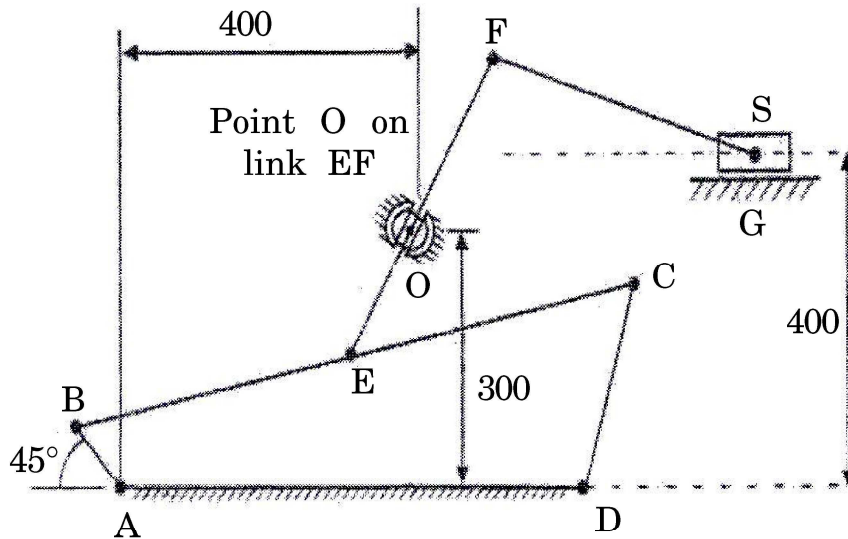

Fig. 4
7. (a) In the swiveling joint mechanism shown in Fig. 4. AB is the driving crank rotating at 300 rpm clockwise. The lengths of various links are $AD = 650$ mm, $AB = 100$ mm, $OF = 240$ mm, $BC = 800$ mm, $FS = 400$ mm, $DC = 250$ mm, $BE = CE$. For the given configuration of the mechanism determine the acceleration of sliding of the link EF in the trunnion. [11]